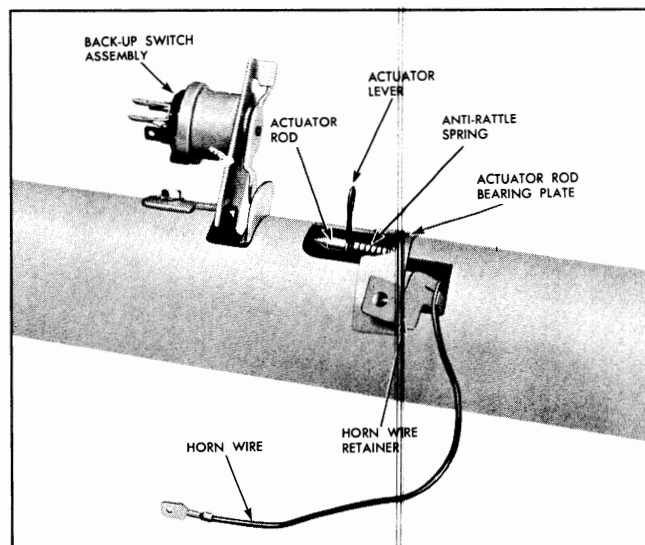

Fig. 11-69 Details at Lower End of Actuator Rod
4. Hold actuator rod anti-rattle coil spring and bearing plate and remove hair-spring type actuator lever from actuator rod (Fig. 11-69).
4. Install actuator rod bearing plate, direction signal switch and horn wire retainer in appropriate position on housing (Fig. 11-69).